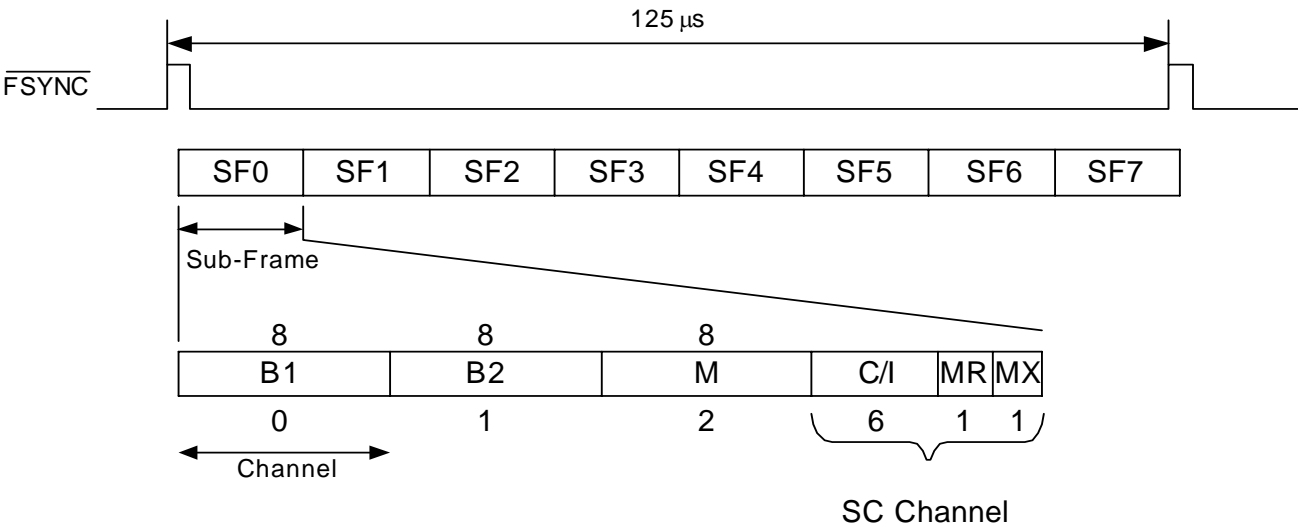

Figure 41. Time-Multiplexed GCI Highway Frame Structure
The GCI highway requires either a 2.048 or 4.096 MHz clock frequency on the PCLK pin, and an 8 kHz frame sync input on the FSYNC pin. The overall unit of data used to communicate on the GCI highway is a frame, which is 125 μs in length. Each frame is initiated by a pulse on the FSYNC pin and the rising edge signifies the beginning of the next frame. In 2x PCLK mode, there are twice as many PCLK cycles during each 125 μs frame versus 1x PCLK mode. Each frame consists of eight fixed timeslot sub-frames that are assigned using the Sub-Frame Select pins as described in Table 21 on page 37 (SDI_THRU, SDO, and $\overline{\text{CS}}$). Within each sub-frame are four channels (bytes) of data, including the two voice data channels (B1 and B2), one Monitor channel (M) for initialization and setup of the device, and one Signaling and Control channel (SC) for communicating status of the device and for initiating commands. Within the SC channel are six Command/Indicate (C/I) bits and two handshaking bits (MR and MX). The C/I bits are used for status and command communication, whereas the handshaking bits Monitor Receive (MR) and Monitor Transmit (MX) are used for data exchanges in the Monitor channel. Figure 41 illustrates the contents of a GCI highway frame.